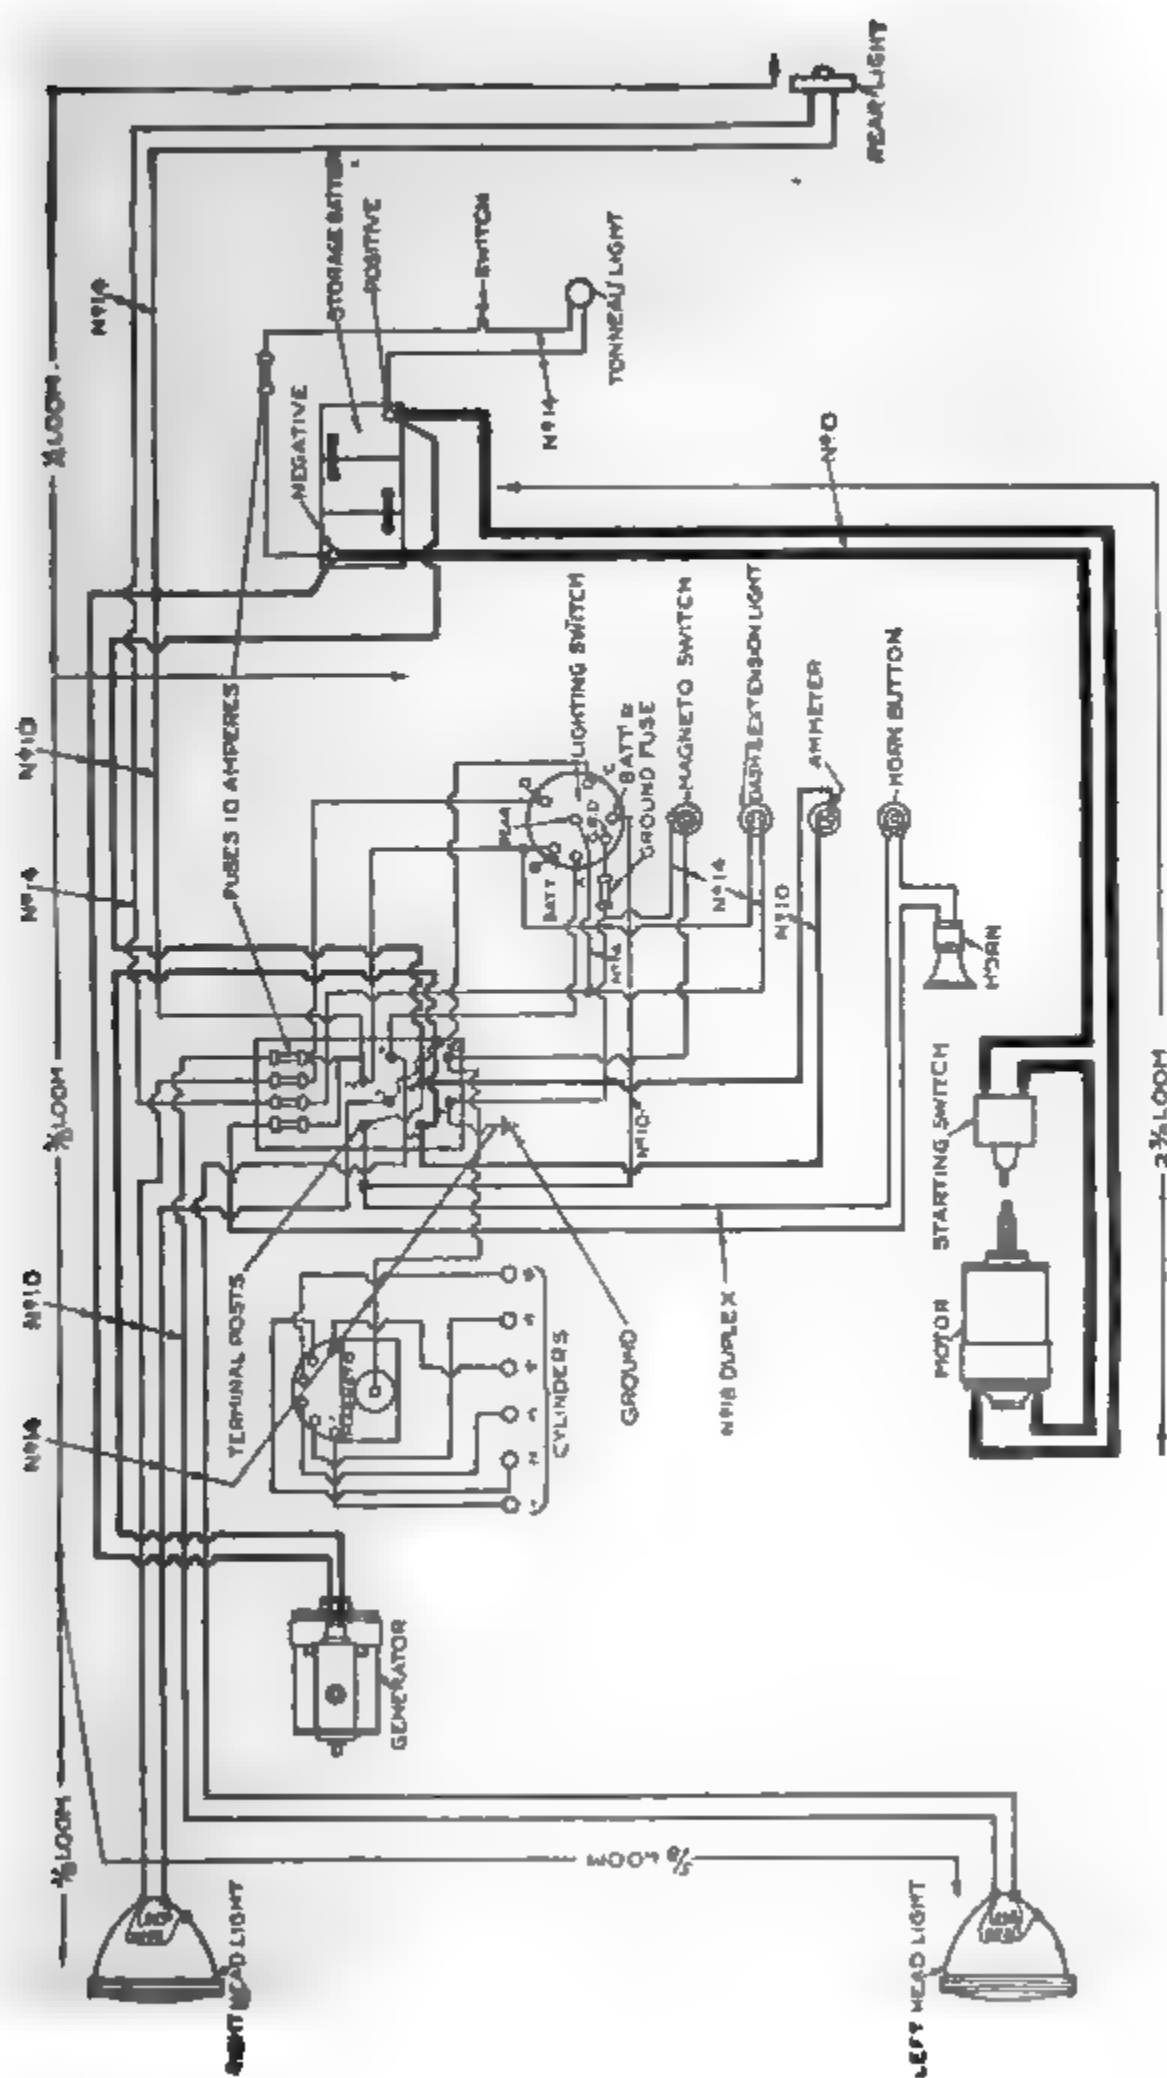

Fig 210 Wiring Diagram for Buir Two-Wire System on the Jeffery Chesterfield Six (1916 Model)
**Jeffery-Bijur Type.** The two-wire system of the Bijur as installed on the Jeffery Chesterfield Six is shown in Fig. 210. All lighting circuits are fused and there is also a fuse in the ground connection for the ignition. The numbers referring to the various circuits indicate the proper size of wire used in each circuit. This is an important item in every starting and lighting system, as, where any wires have to be replaced owing to mechanical or electrical injury, they must always be replaced with wire of the same size and character of insulation, as otherwise, further and more serious trouble is apt to follow. Thus, for the starting circuit No. 0 (Brown & Sharpe gage) cable is employed; for the charging circuit between the generator and battery No. 10; for the lighting circuits No. 14, which is the size ordinarily employed for incandescent-lamp circuits in house wiring; and for the horn No. 18. "Duplex" in this connection means that both wires of the circuit are enclosed in the same braided insulation. "Loom" is tubular fireproof insulation through which the wires are passed to afford further protection, and the sizes vary in accordance with the size of the wires.